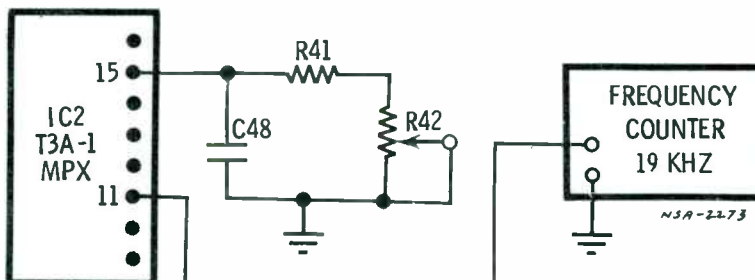

FIG. 4 - R42 ADJUSTMENT WITH COUNTER
7. For good stereo reception it is imperative that the stereo frequency adjust control (R 42) be accurately tuned for 19 KHZ output on pin 11 of IC2 (typically within 1%). Two adjustment procedures are given depending upon equipment availability, see figures 4 & 5.
Ideally, one of the most accurate ways to adjust R42 would be with the aid of a Frequency Counter. Connect the counter to pin no. 11 of IC2 as shown in Fig. 4. Adjust R42 for 19 KHZ as seen on the Counter.